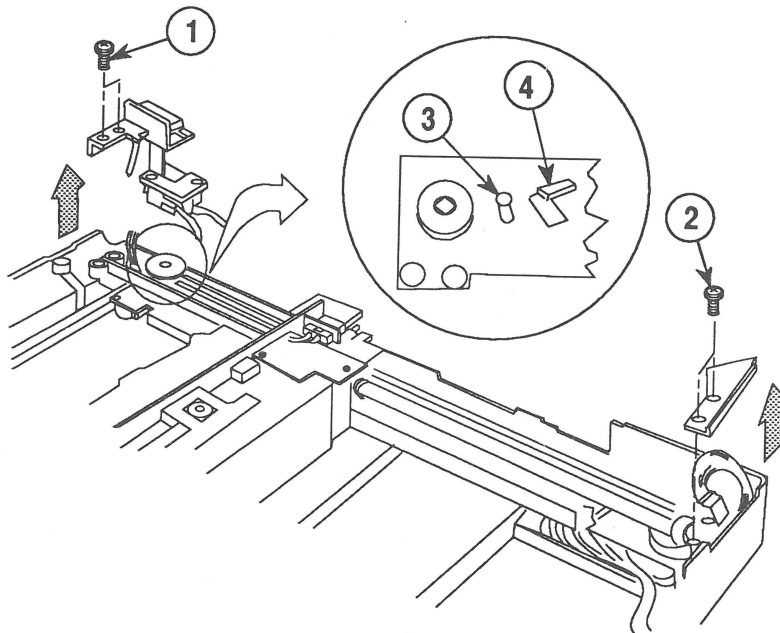

FIGURE 6
7. Remove the two screws (Figure 6, #1) that secure the back-side shaft bracket. The bracket can then be moved slightly to the side.
8. Remove the two screws (Figure 6, #2) that secure the front-side shaft holder bracket. This bracket is removable.
9. Loosen the screw (Figure 6, #3) on the carrier motor plate that holds the belt pulley tight.
10. Loosen the tension on the belt by swinging the pulley lever (Figure 6, #4) toward the front, and remove the belt from the pulley gear.